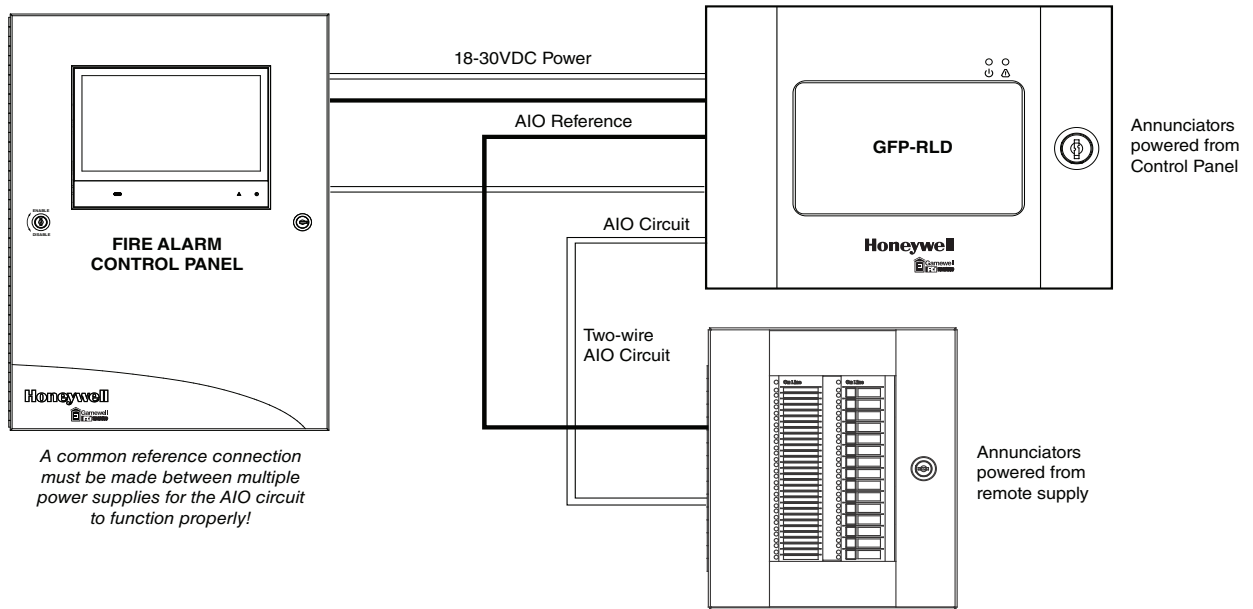

Figure 2.4 Using Multiple Power Supplies with the AIO Circuit
- If annunciators are to be mounted in a separate cabinet or powered by a remote power supply, see Figure 2.4, "Using Multiple Power Supplies with the AIO Circuit".